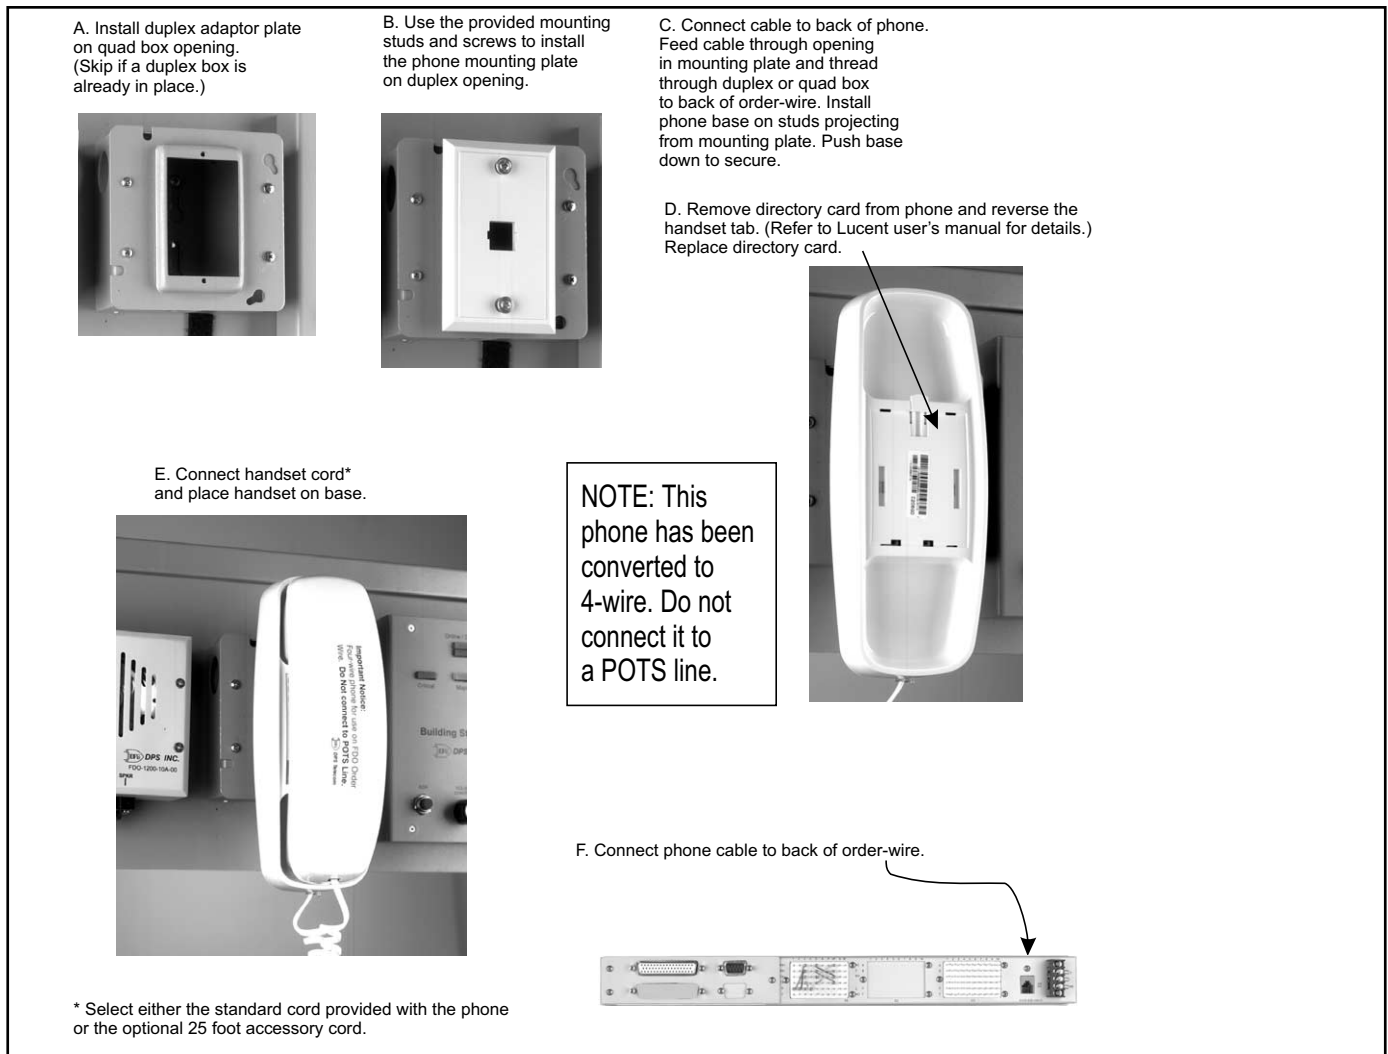

Fig. 17 - Install 4-wire phone on duplex plate near the order-wire.
5. Mount the phone per Fig. 17. Connect to RJ-12 jack on the back of the order-wire.